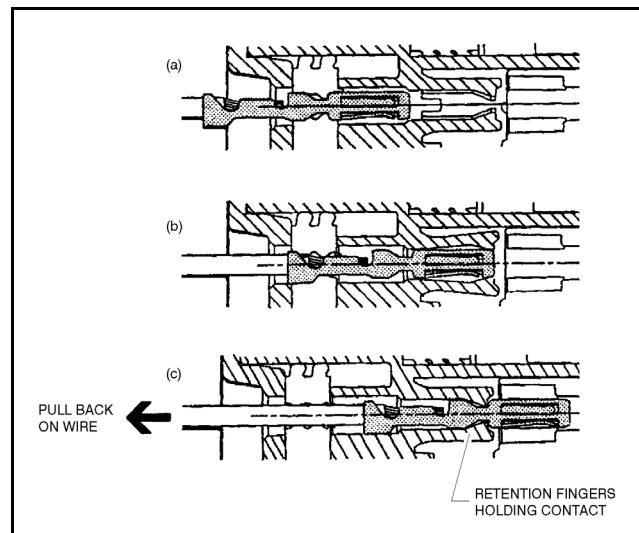

Figure 7-11. Connector Assembly (2 of 4)
1. To insert a contact, push it straight into the appropriate circuit cavity as far as it will go (See Figure 7-11., Connector Assembly (2 of 4)).
2. Pull back on the contact wire with a force of 1 or 2 lbs. to be sure the retention fingers are holding the contact (See Figure 7-11., Connector Assembly (2 of 4)).